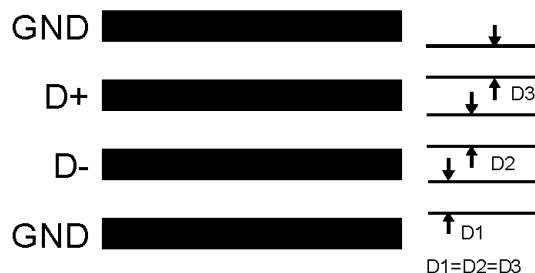

Figure 15. Ideal Diode Trace Layout
4. Diode traces should be surrounded by a GND guard ring to either side, above and below if possible. This GND guard should not be between the D+ and D– lines. In the event that noise does couple to the diode lines it would be ideal if it is coupled common mode. That is equally to the D+ and D– lines. (See Figure 15)